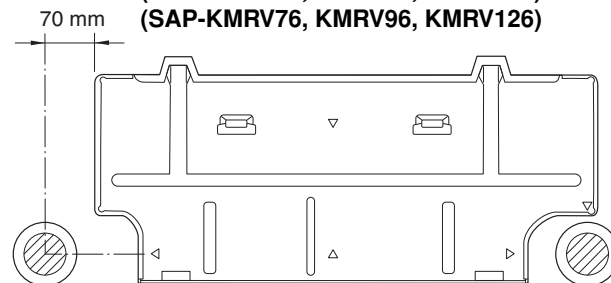

Fig. 9a
- (1) Place the rear panel from the indoor unit on the wall at the location selected. Make sure the panel is horizontal, using a carpenter's level or tape measure to measure down from the ceiling. Wait until after cutting the hole before attaching the rear panel to the wall.
- (2) Determine which side of the unit you should make the hole for tubing and wiring. (Fig. 9a, 9b or 9c)
In the case of left-rear tubing, use the measurement points from the edge of the rear panel for precise placement of the hose outlet. (Fig. 9a, 9b or 9c)